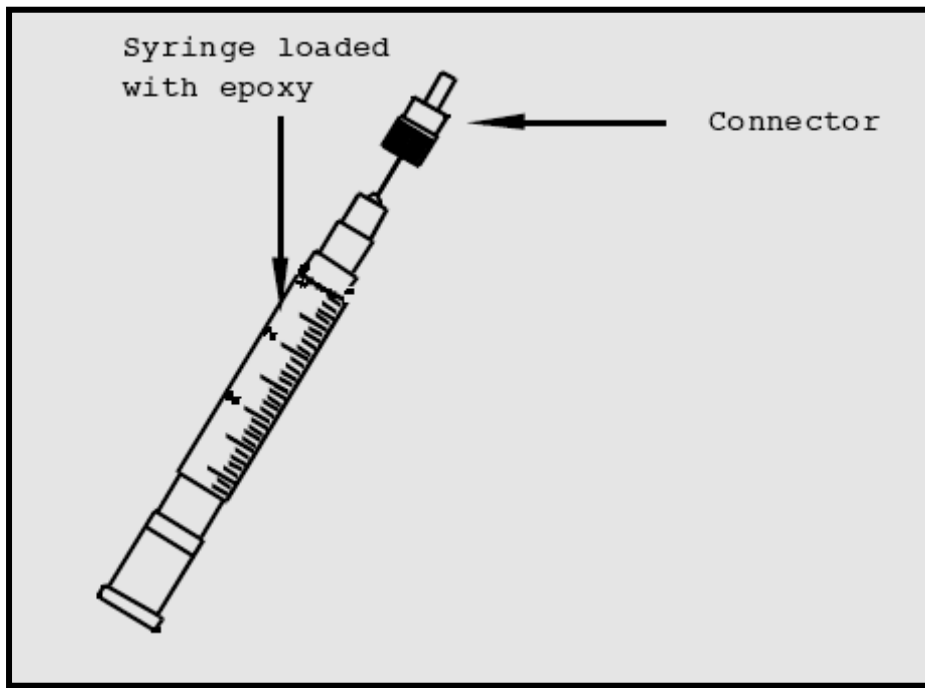

Figure 2-103. Injecting epoxy into the Connector
**Step 5** - Slide the connector, rear first, onto the syringe tip (see figure 2-103). Keeping the syringe vertical, depress the plunger and slowly inject epoxy into the connector until it escapes out of the ferrule, forming a very small bead.